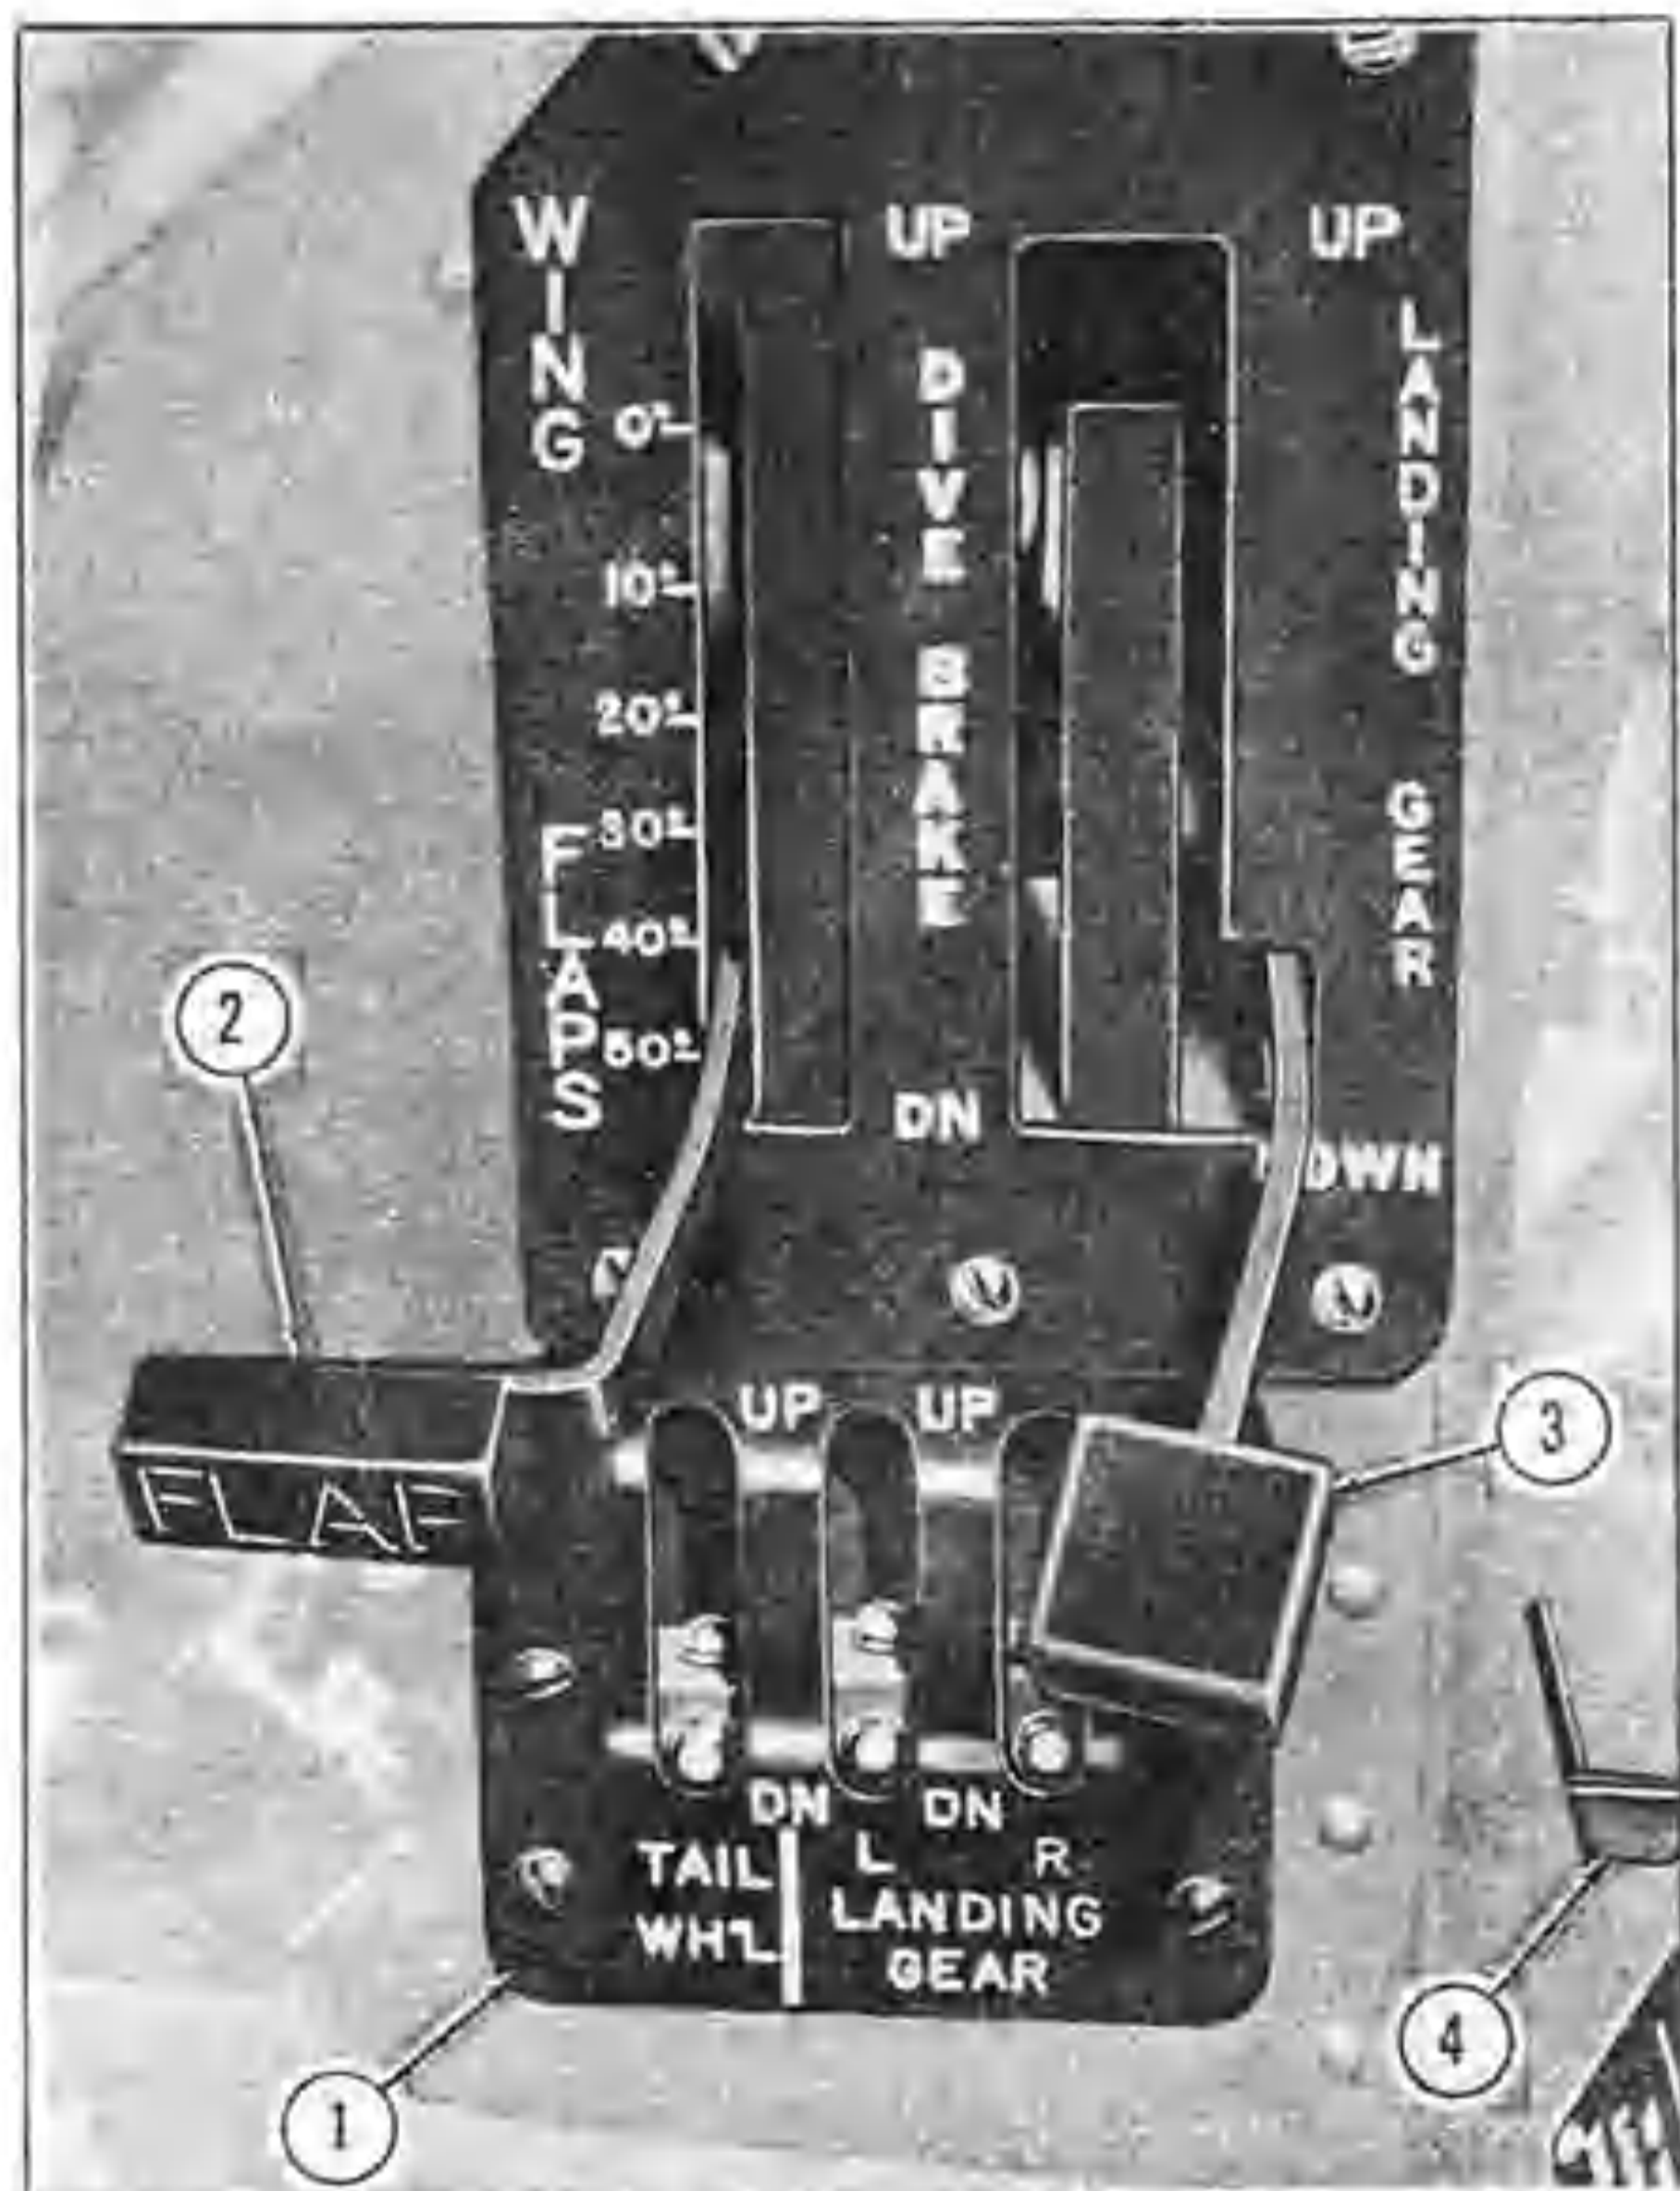

Figure 15 — Forward Left-Hand Control Panel
e. LANDING GEAR CONTROLS. (See figure 15.)
(1) GENERAL. — Both the main landing wheels and the tail wheel and their covering doors are extended and retracted hydraulically. In the event of failure of the hydraulic system during flight the main wheels can be lowered by releasing compressed carbon dioxide into the actuating struts; under such emergency conditions the tail wheel is lowered and locked by spring action.
(F2G-2 has arresting hook control in place of dive brake) is on the forward left-hand control panel. (See 3, figure 15.) As the control lever is moved from *UP* to *DOWN* (in the *LANDING GEAR* slot) the tail wheel and main wheel doors open and the wheels are lowered. The correct sequence of door and landing gear motion is maintained automatically. Returning the control to *UP* reverses this action, retracting the gear.
An automatic safety latch holds the control lever in the *DOWN* position as long as the weight of the plane is on the landing wheels. When the plane lifts off the ground, the latch is withdrawn electrically and the landing gear control is freed. An emergency lever on the vertical panel beside the main control serves to withdraw the latch mechanically in case of electrical failure. (See 4, figure 15.) If, with the plane airborne, the landing gear control remains locked *DOWN*, raise the emergency lever and hold it up until the landing gear control is moved out of the *DOWN* position.
(a) GENERAL. — The flap control lever is on the forward, left-hand control panel. (See figure 15.) The flaps may be set at any 10 degree position